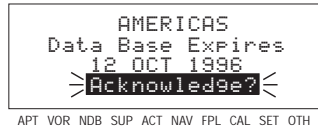
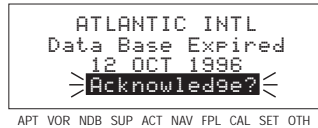

Figure 3-17
Figure 3-18
10. The Data Base page will now be displayed with the cursor over **Acknowledge?**. Line 1 indicates whether an Americas, Atlantic, or Pacific data base is being used. If the data base is current, line 3 will show the date when the data base expires (figure 3-17). If, on the other hand, the data base is out of date, line 3 shows the date that it expired (figure 3-18). The KLX 135A will still function with an out of date data base; however, you must exercise extreme caution and always verify that the data base information is correct before using information from an out-of-date data base. Press **ENT** to acknowledge the information on the Data Base page.